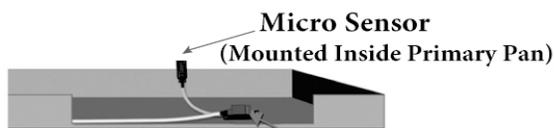

Figure 2 AG-3180E Secondary Pan Sensor (Inside Secondary Pan)
2. Using the double-sided tape provided with the AG-3180E, affix the mounting bracket in the lowest point of the (fig. 2) and snap the AG-3180E Secondary Pan Sensor into mounting bracket. Note: If not using a secondary drain pan, AG-3180E Secondary Pan Sensor may be mounted to the side of the HVAC unit using the double sided tape or mounting bracket (fig. 3).
2. Use la cinta adhesiva de doble cara incluida con el AG-3180E, y pegue la abrazadera de montar en la parte inferior de la bandeja a 25 pulgadas (63 cm) del desagüe secundario (fig. 2) y coloque el AG-3180E (sensor para bandeja secundaria) en su abrazadera.